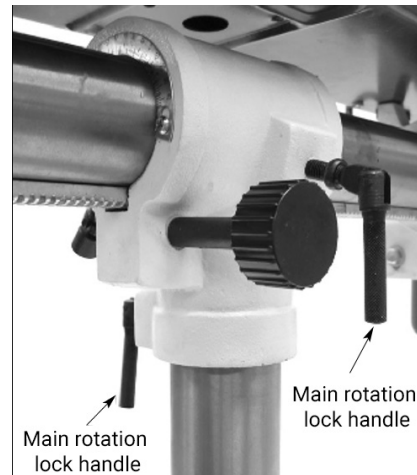

Figure 10
- Secure the main unit in position by tightening the locking handle (see figure 10).